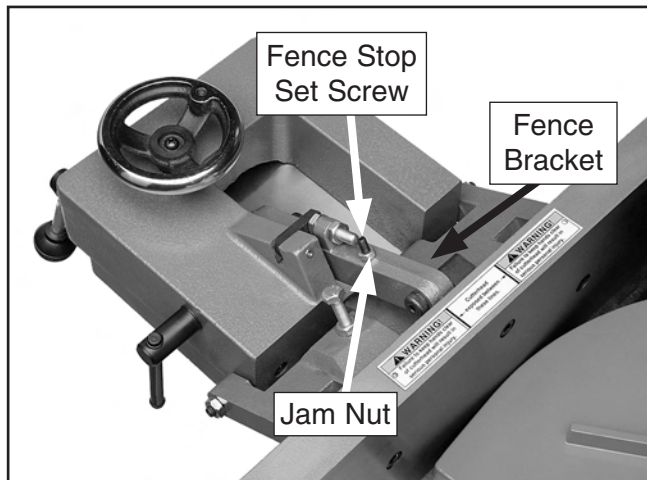

Figure 59. 45° inward fence stop set screw.
2. Loosen the jam nut shown in **Figure 59**.